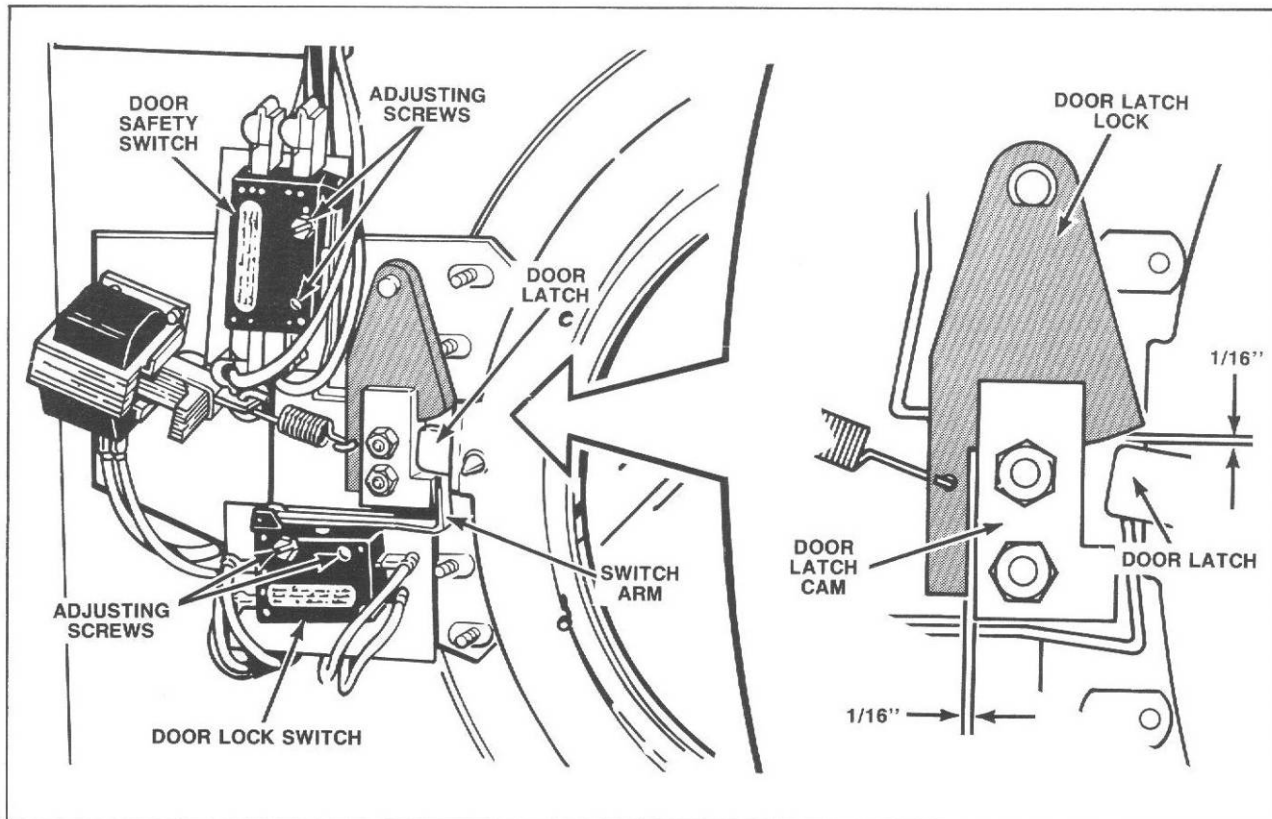

Figure 45
42. **DOOR LOCK ASSEMBLY** (Refer to Figure 45)